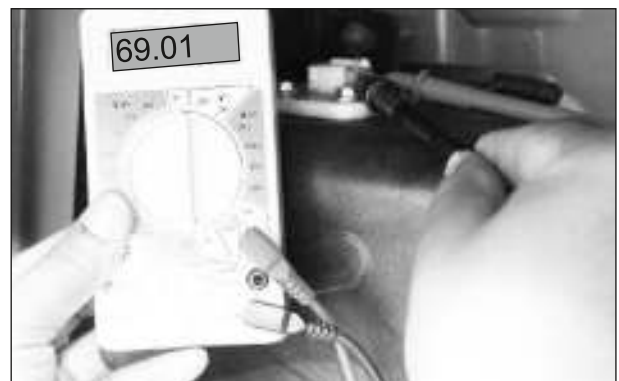

Fig. 6.83
- Set pocket tester to 200  $\Omega$  range and check the resistance of fuel sender unit. Connect '+ve' lead of pocket tester to green with yellow tracer wire (GY) and '-ve' lead of pocket tester to black with white tracer wire (BW). If the resistance value is not within the specified limit, then replace the fuel sender unit with new. (Fig. 6.83)